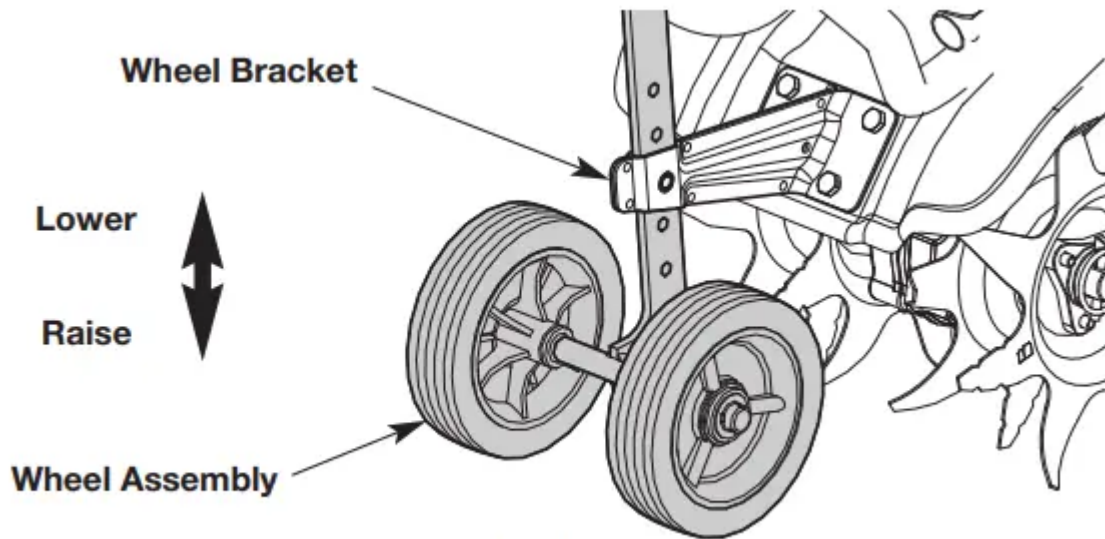

Fig. 1
1. Insert the wheel assembly into the wheel bracket. The *J" shape of the wheel assembly should point away from the unit (Fig. 1).
2. Align the hole in the wheel bracket with the desired hole in the wheel assembly (Fig. 1).
3. Align the hole in the wheel bracket with the desired hole in the wheel assembly (Fig. 1).